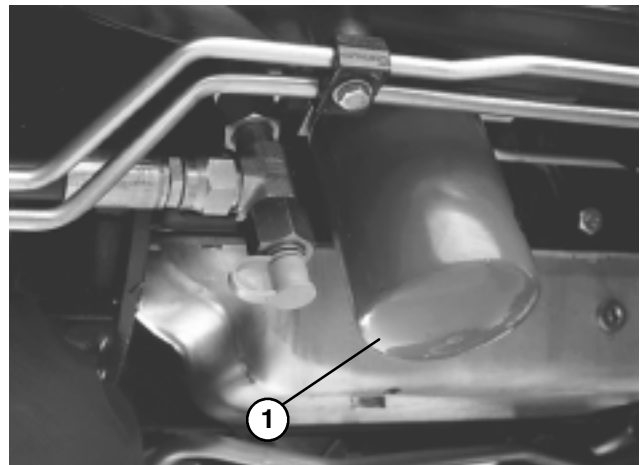

Figure 38
REPLACING HYDRAULIC FILTER (Fig. 38)
2. Clean area around filter mounting area (Fig. 38). Place drain pan under filter and remove filter.